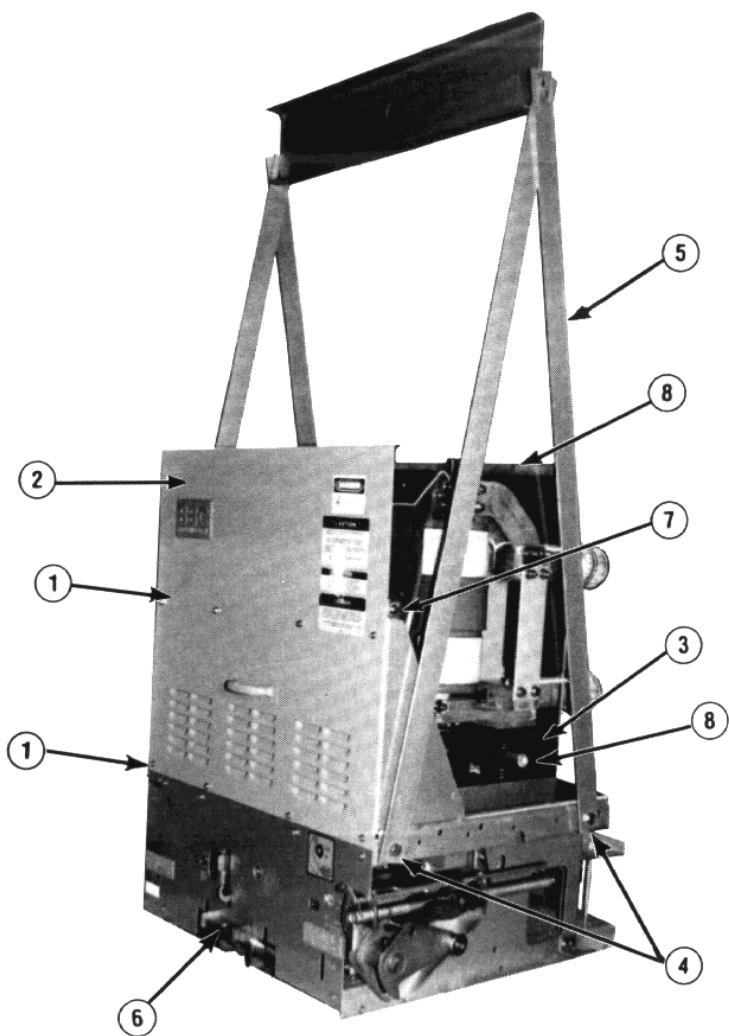

Fig. 1 — Circuit Breaker Assembly with Lifting Yoke Installed
Referring to Fig. 1, if it is necessary to raise or move the breaker, attach a lifting yoke (5) at points (4) on both sides of the truck, or a fifth wheel at point (6) to transport the breaker as required.
The front cover and interphase barriers (2 & 3, Fig. 1) must be removed for access to and inspection of the vacuum interrupters, and their associated adjustments.
Removing Front Cover and Interphase Barrier (See Fig. 1)
Installing Front Cover and Interphase Barriers (See Fig. 1)